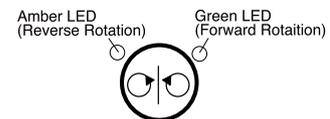

Fig.3-12 Electric Motor Direction Control Switch
⑩ Electric Motor Rotation Direction Control Switch (Optional) (Fig.3-12) E